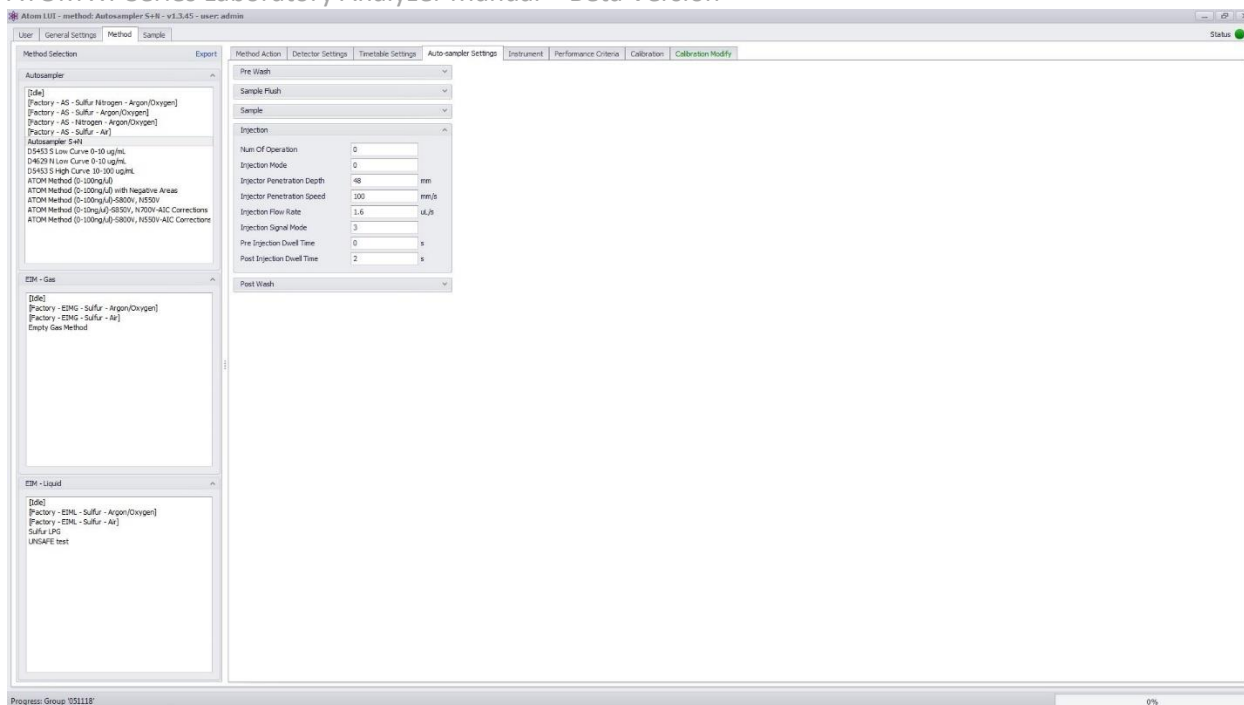

Figure 33 Autosampler Injection Menu
- 4) Injection (Figure 33): Sets injection parameters